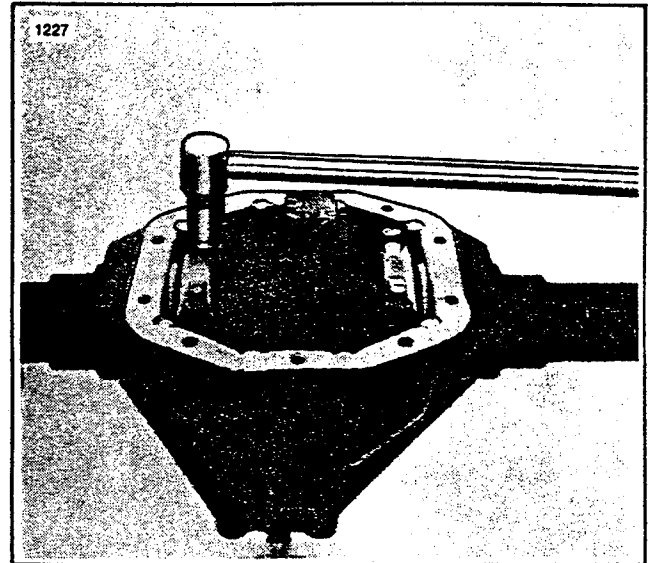

Figure 3-28. Torque Bearing Cap Bolts
housing. Install bearing cap bolts (4) and tighten to 35-45 ft-lbs (5.5 kgm) torque (Figure 3-28).
- Check ring and pinion gear backlash as described in Step 6 of disassembly. High backlash is corrected by moving ring gear closer to pinion gear. Low backlash is corrected by moving ring gear away from pinion gear. Backlash adjustment is made by switching shims (11) from one side of differential case to the other.